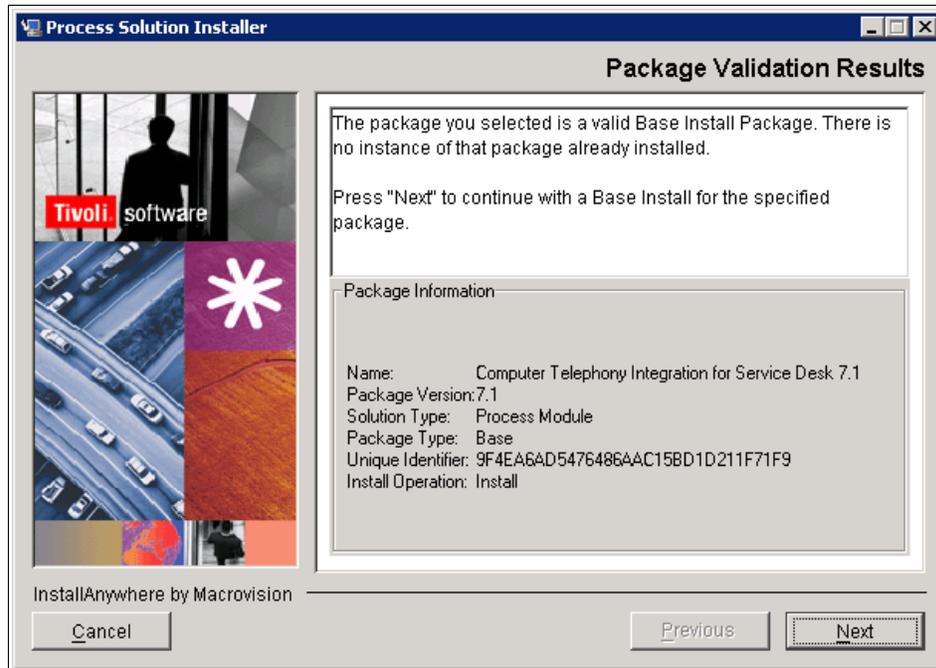

Figure 8-4 Package validation results when not installed yet
8. If the package has not been previously installed and successfully validated, Figure 8-4 on page 223 appears.